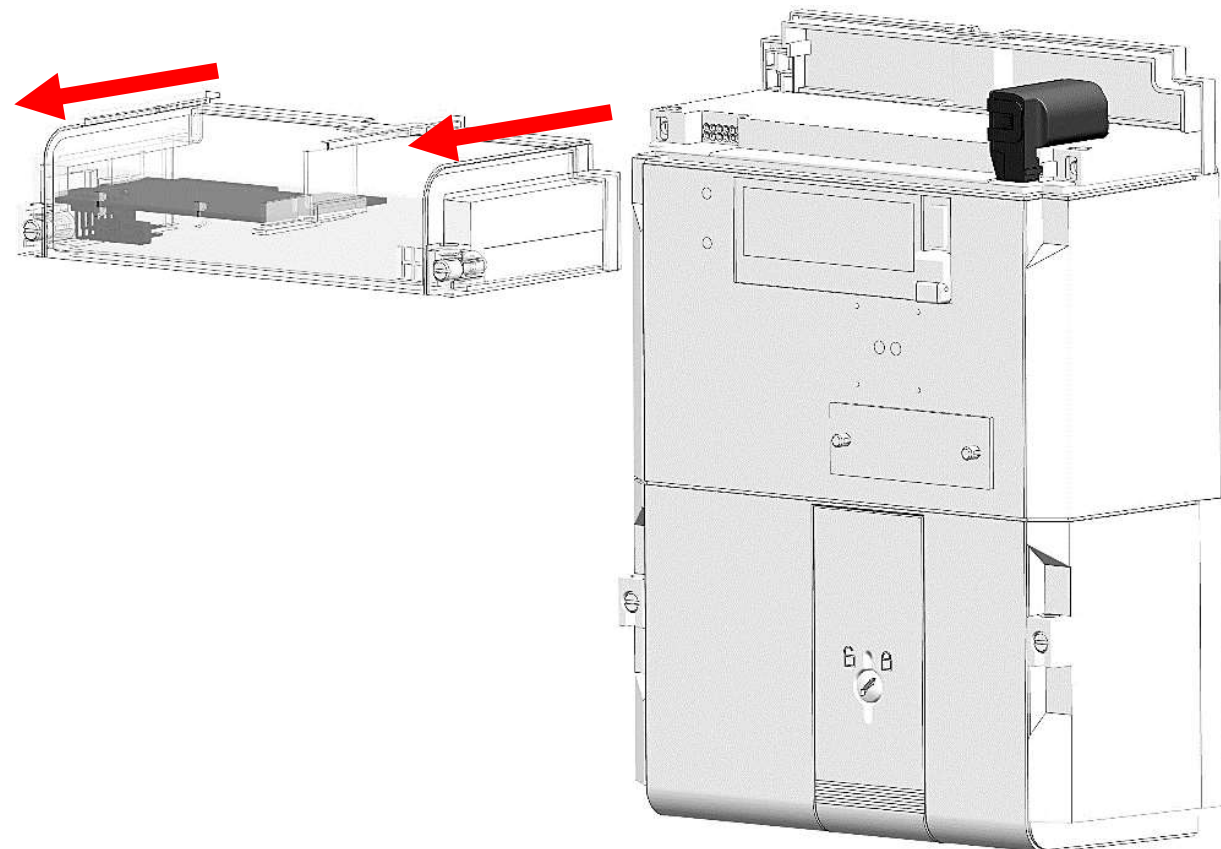

Figure 63: Replacing the communication module – step 2
3. Remove the module cover – slide it out from the base meter (Figure 63).